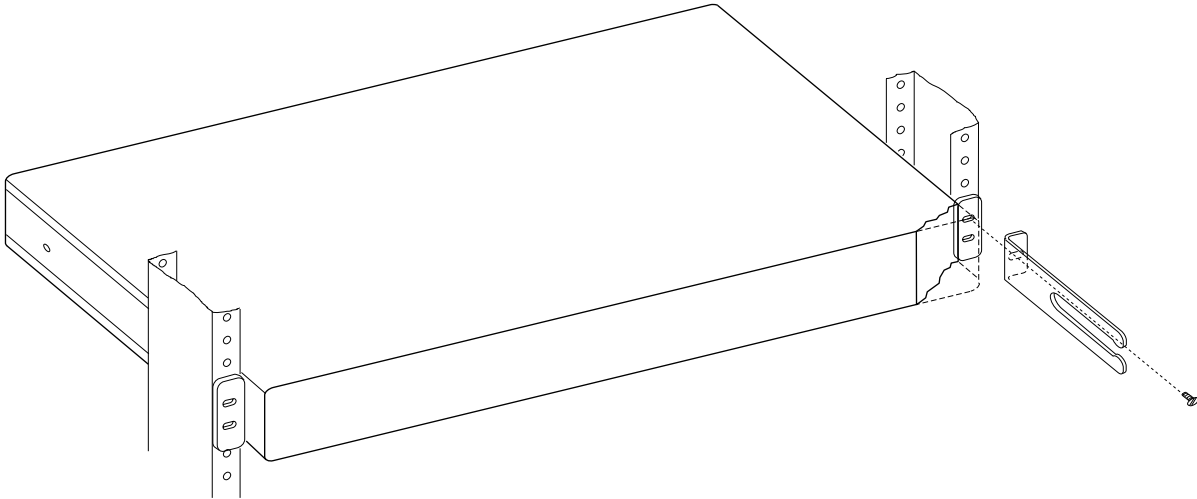

Figure 3-2. Rack Mounting the 8271
**Step 5.** Align the hole in the cable management bracket with the hole on the right-hand mounting bracket and the rack. Using the other screw, secure the cable management bracket and the right-hand side of the unit in the rack, as shown in Figure 3-2 on page 3-4.